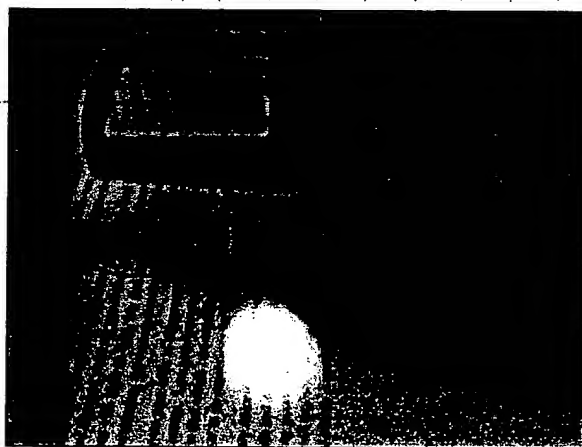
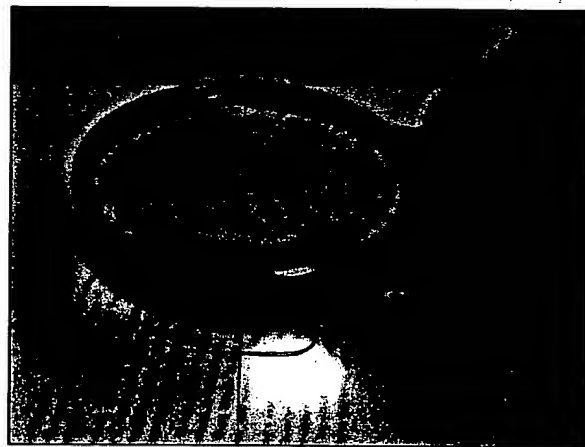

Figure 7 - Illumination is uneven, off-center.
Figure 8 - Another example of poor illumination.
* AS FIGURES 7 THRU 10 SHOW BELOW, ACHIEVING A
CENTER OF THE GLASS. FIGURE 7 AND FIGURE 8